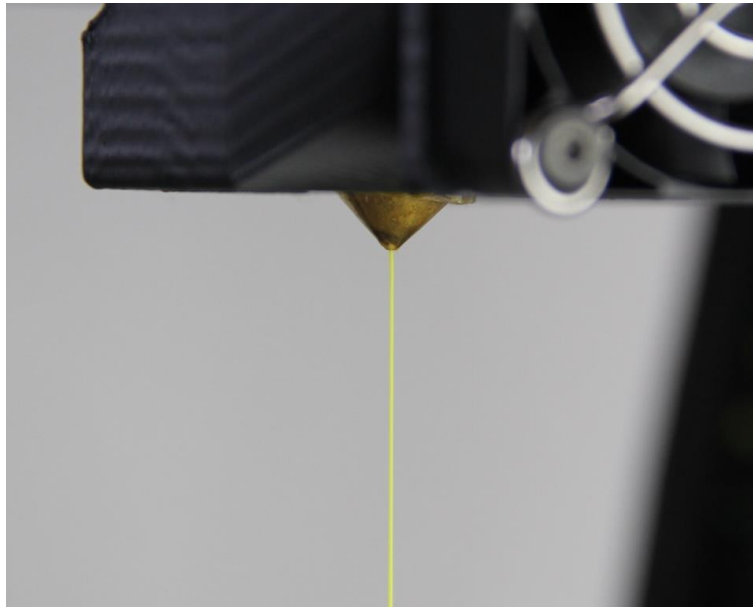

Figure 2.42: Extruded melt filament
- If needed, click the DOWN buttons again to extrude out more filament until you see a steady stream of melt filament extruded out of the extruder nozzle. (Figure 2.42)